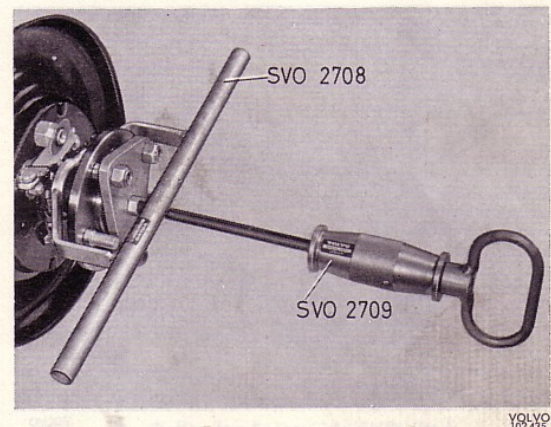

Fig. 26. Adjusting axial play for drive shafts
- of a hammer on tool SVO 2709. If necessary, adjust. Use tool SVO 2708, see Fig. 26. Lock the adjuster nut with a suitable tab.